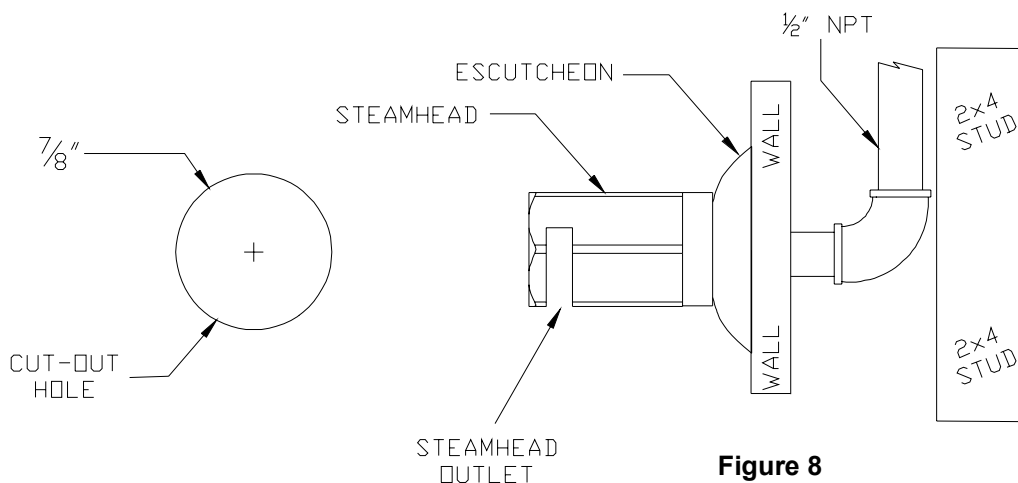

Figure 8
2. Connect 1/2" F.I.P. copper pipe or copper tubing and 1/2" brass union onto the steam outlet. Run a 1/2" copper pipe from the union to the 7/8" hole in wall. See **figure 8**.